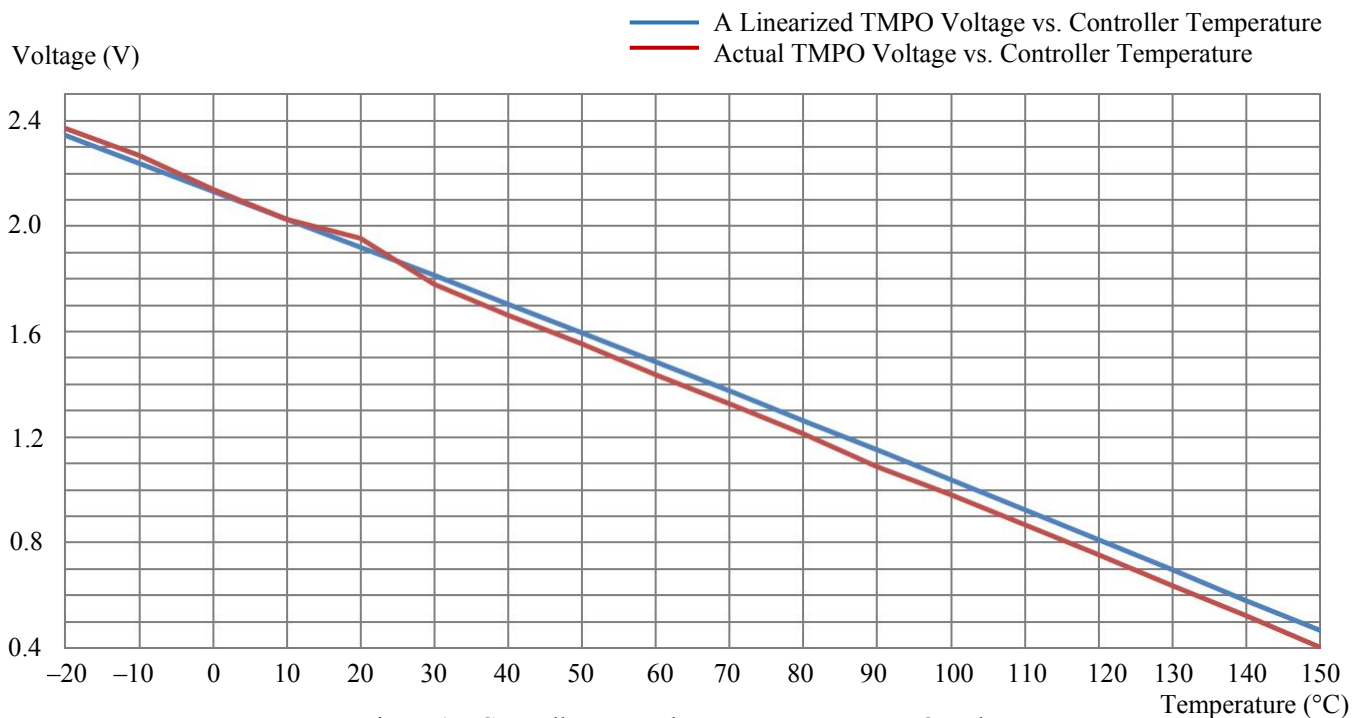

Figure 15. Controller Internal Temperature vs. TMPO Voltage
Within the most commonly used temperature range of between  $0^\circ C$  to  $100^\circ C$ , the maximum error occurs at about 1.5V, at which the temperature error between the calculated data by using the formula (1) and the approximated data obtained by using the linear equation (2) is about  $0.4^\circ C$ , with the linear data being a little lower. The curves of the 2 sets of the data are plotted in Figure 15.